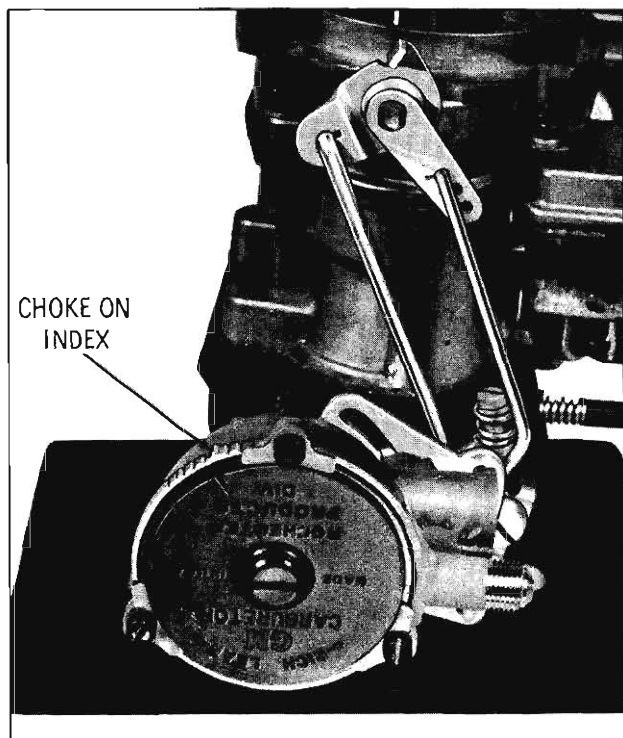

Fig. 4-48 Choke Coil Setting
3. Rotate the choke cover counterclockwise until the coil picks up the choke shaft tang, and the mark on the choke cover is on index. (Fig. 4-48)